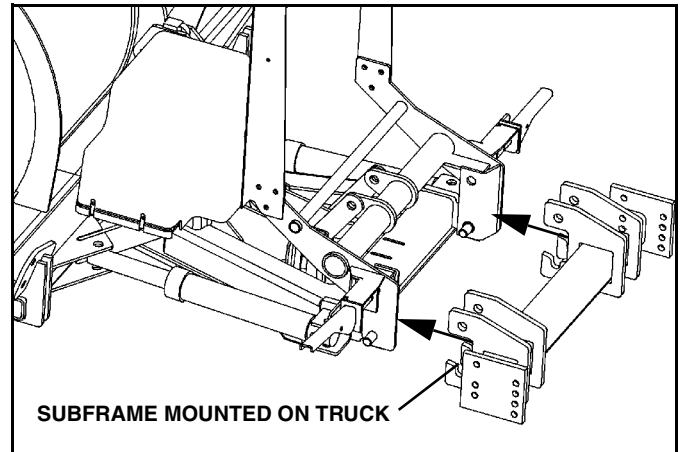

Figure 1-21
1. Drive truck into plow. Align light/lift bar frame inside of sub-frame lugs. Pins should fit inside slots cut into sub-frame lugs. (See Figure 1-21).